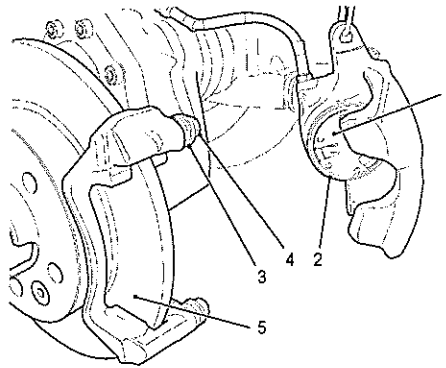

Fig 8 Checking brake components
19 Remove damping plate (see Fig 8/1). Check piston dust sleeve (see Fig 8 (2)) as well as bellows (3) for condition and elasticity. Check guide pins (4) are freely movable in brake anchor plate. If necessary, grease with Alfalub (SKF) – or equivalent bearing grease. Check brake disc (5) for wear. Min. thickness 11 mm. Traces of wear predominately on one side of brake disc indicate jamming of piston in cylinder bore. In this case change calliper and brake disc together. If brake disc is in perfect condition, remove rust crust at outer edges with scraper and smoothen with emery cloth. Clean calliper dry only, do not use fluids containing mineral oil.